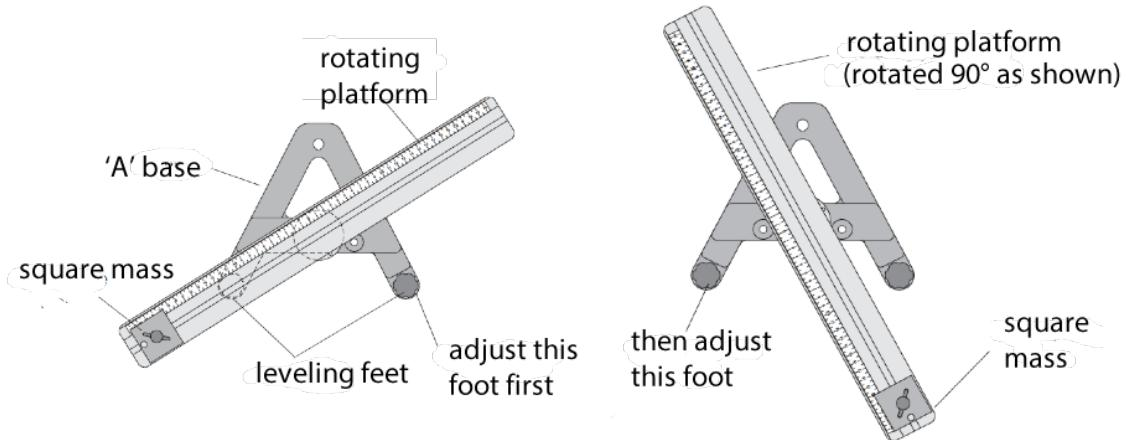

Figure 2: Diagram of the necessary parts to level the apparatus.
1. Adjust the position of the 300 g square mass so that its center is at the 22 cm mark by loosening the screw, sliding the mass along the track, and tightening the screw so the mass will not slide. Rotate the track until the 300g mass is above the left foot of the “A” base. See the left side of Figure 2.
2. Adjust the leveling screw on the right side of the “A” base until the end of the track with the square mass is aligned over the leveling screw on the left other leg of the base. See the left side of Figure 2.
3. Rotate the track 90 degrees so it is parallel to the right edge of the “A” base and adjust the left leveling screw until the track will stay in that position (parallel to the right edge of the “A” base). See the right side of Figure 2.